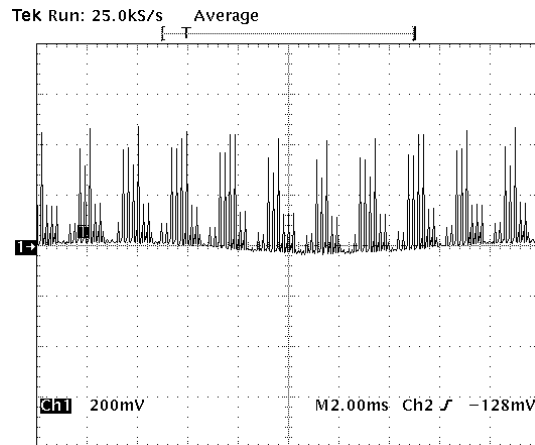

Figure 17: 60 Hz Rejection Check (Positive)
12. Verify that the amplitude of the 60 Hz sinewave component of the waveform is $\leq 70 \text{ mV}_{\text{p-p}}$ (see Figure 17).